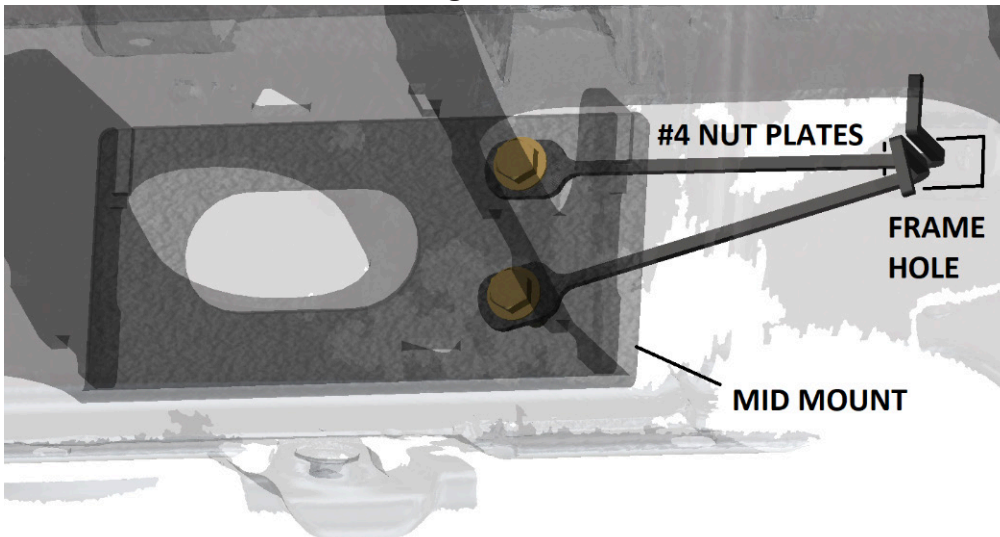

Figure 6
7. Next move to the MID mount on the driver side. Use the #4 etched nut plates through the frame along with 2x 3/8" yellow zinc hex head cap screws with washers to fasten it in place. Place a dab of 242 Loctite on the end of each bolt. Figure 6.